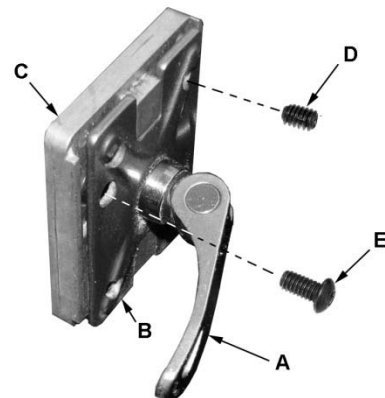

Figure 25
4. Use a 3mm hex key to make adjustments to four set screws (D, Figure 25) accessible through openings located in the corners of the clamp plate (B, Figure 25).
5. Adjust any number of setscrews required to bring riving knife in alignment with saw blade. Then reinsert riving knife, secure by tightening lever (A) and check the alignment per step 2.
Refer to Figure 25.
2. Use a 5mm hex key to loosen two socket head button screws (E, Figure 25).